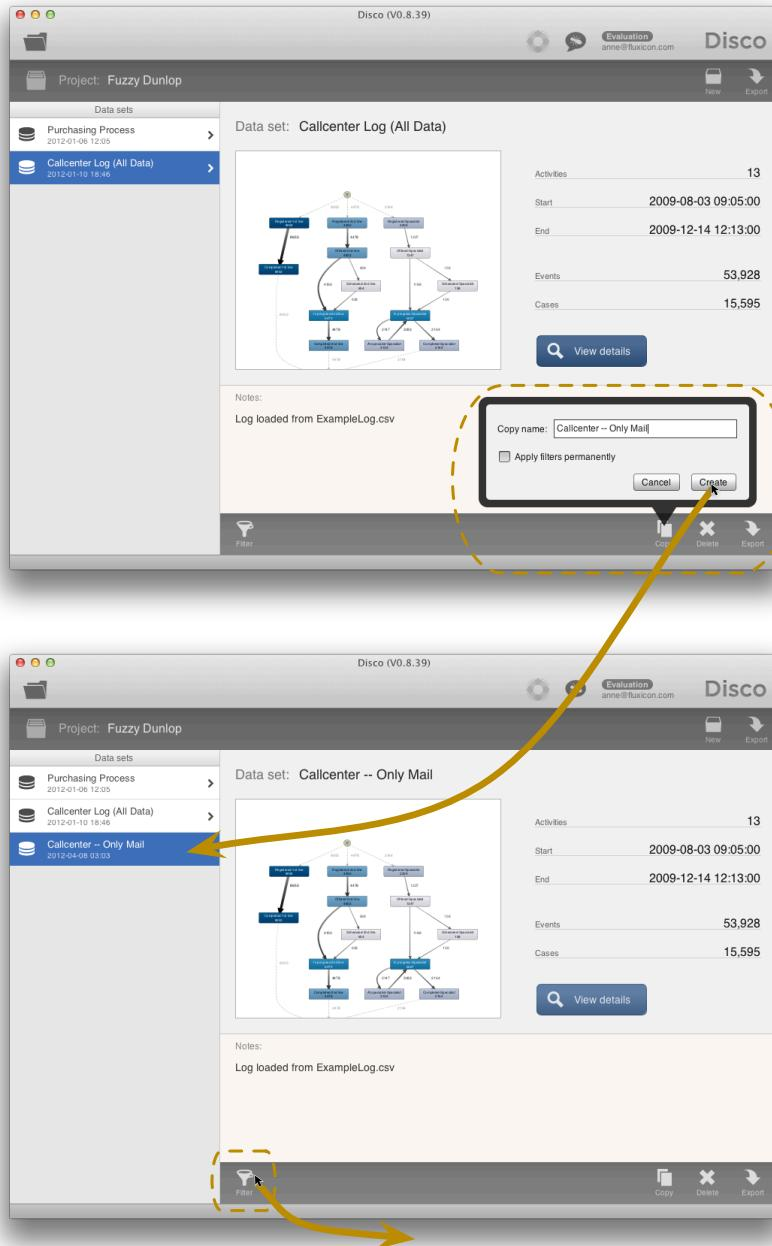

Fig. 6.9. Example Scenario – Step 1: Make a copy of the complete data set.
Step 1: You start by taking the complete call center data as a reference point, and you make a copy by pressing the *Copy* button on the lower right of the project view screen. A dialog appears in which you can provide a custom name for the new data set. We give it the name ‘Callcenter – Only Mail’ because we intend to use this copy as a bookmark for the cases that were initiated by email. After you press *Create*, the copy is placed in the list of data sets. Figure 6.9 visualizes this step.